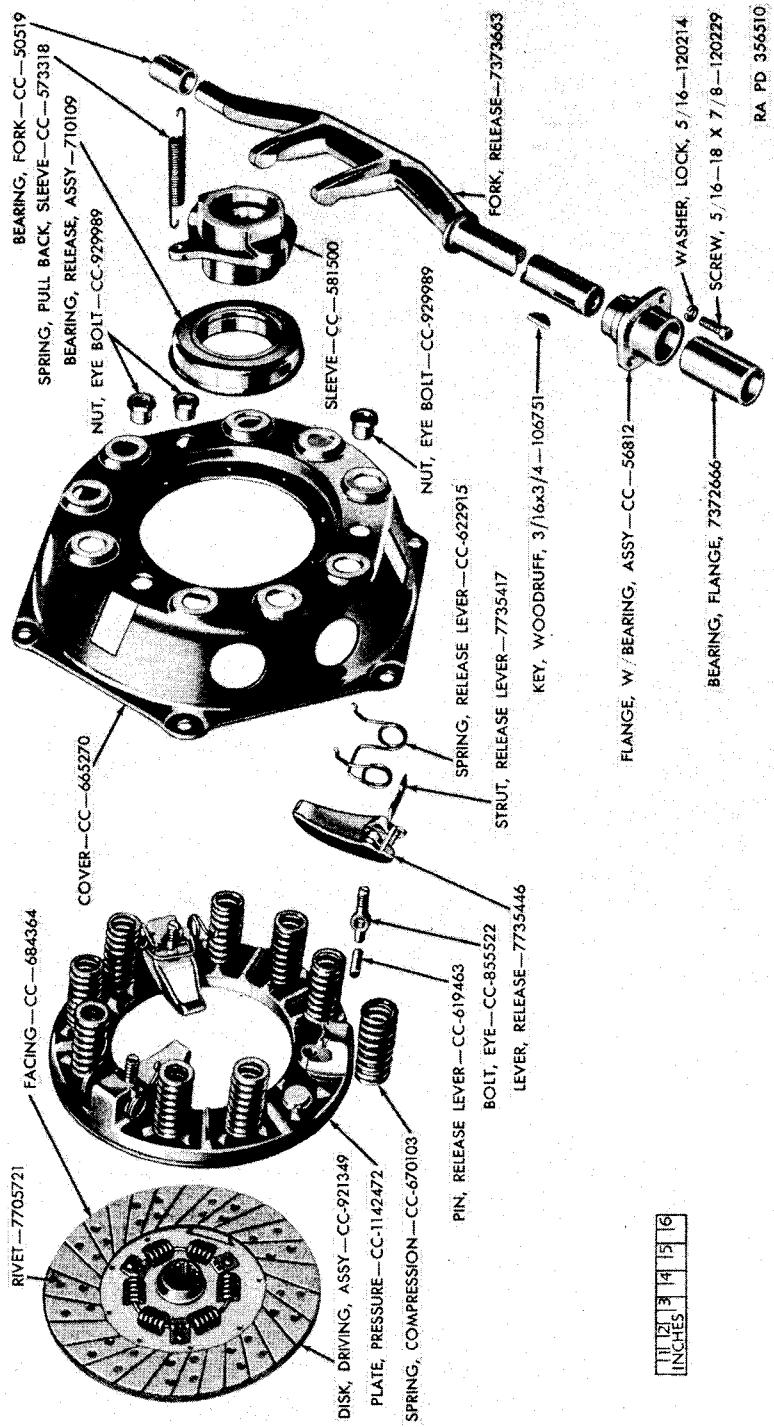

Figure 100. Clutch—exploded view.
The clutch assembly (fig. 100) is composed of two major units; the pressure plate and cover assembly and driving disk assembly. The pressure plate and cover assembly consists of pressure plate, nine compression springs, three release levers, and cover. The driving disk assembly consists of disk, two facings, and a spring loaded center disk.
b. *Disassembly of Clutch* (fig. 100). The clutch can be disassembled by mounting the clutch on clutch rebuilders 41-C-2480 and compressing the cover in accordance with the instructions of the rebuilding tool manufacturer.